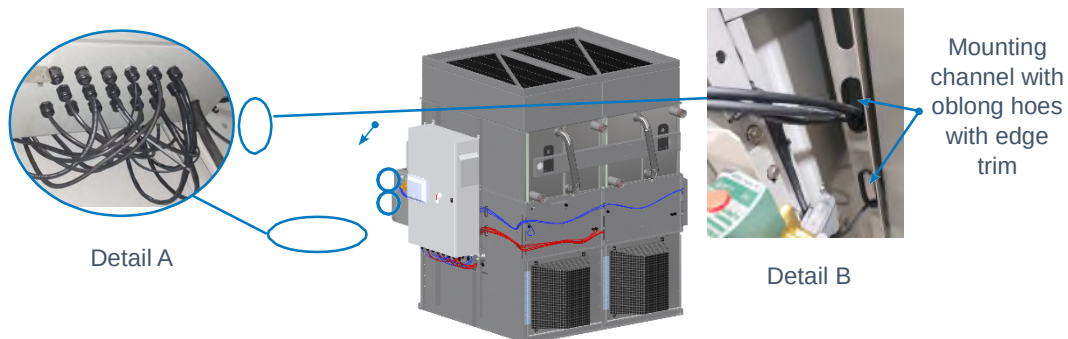

Figure 17. Wire to the touchscreen control system panel
6. Route the fan power wire through the bottom oblong hole with the edge trim on the control panel mounting channel. Pull each wire through each cord grip at the bottom of the control panel, then connect each connector of wire to the correct terminal block position. See **Figure 17**.
7. Route the fan communication and component wires through the oblong hole with edge trim on the control panel mount channel. Pull each wire through each cord grip at the bottom of control panel, then connect each connector of wire to the correct terminal blocks position. See **Figure 17**.